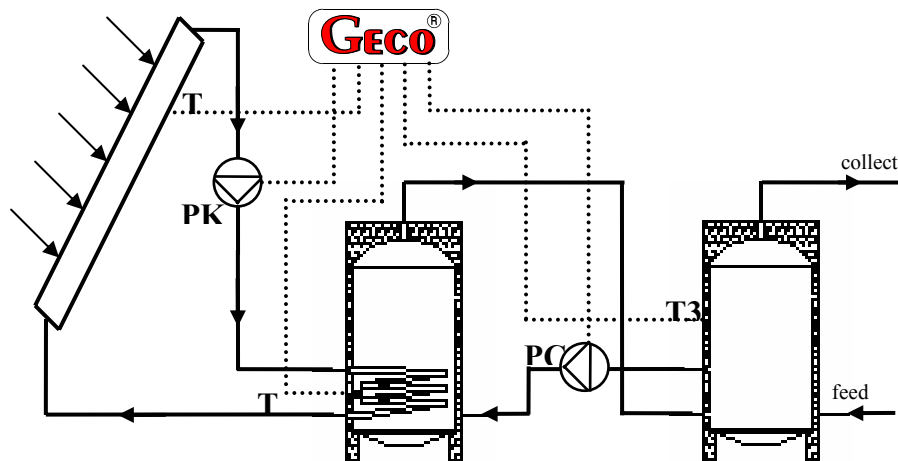

Fig. 3
- '3': a version with one collector and operation of a pump for the CWU tank (fig.3),